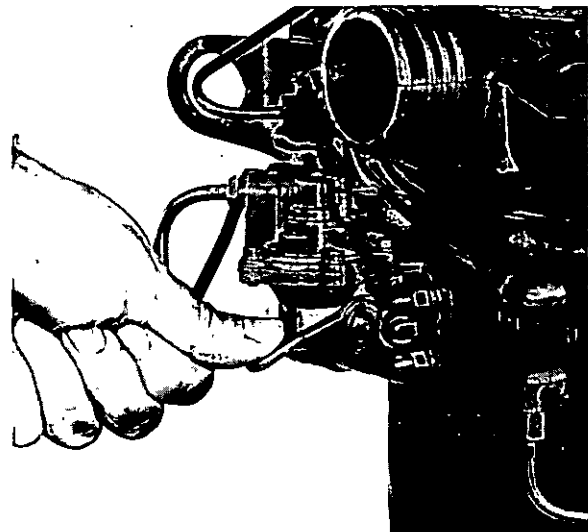

Fig. L.5
3. Operate priming lever of fuel lift pump (Fig. L.5) and when fuel, free from air bubbles, issues from each venting point, tighten hydraulic head vent screw and then governor cover vent screw.
Crank engine, or operate hand priming lever (Fig. L.5). A spurt of fuel should emit from outlet port once every two engine revolution, or every time hand priming lever is depressed.